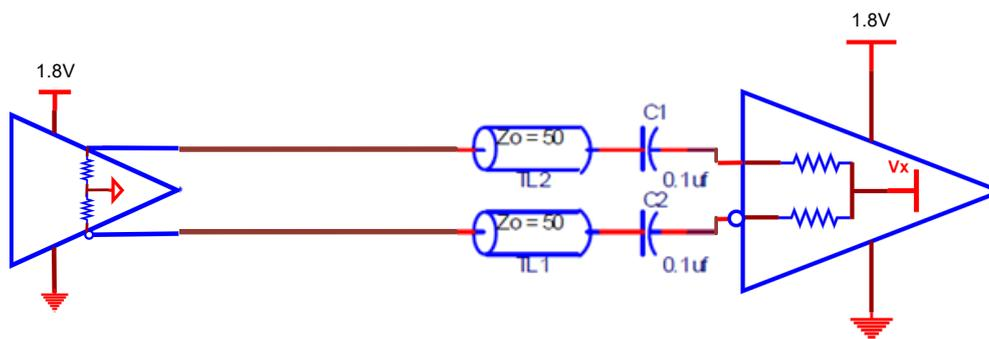

Figure 5. HCSL Dual-Termination for Receivers with Internal Terminations
- Figure 5. HCSL Dual-Termination for Receivers with Internal Terminations4
Figure 5 shows a common HCSL termination scheme for receivers with internal terminations. Internally, the receiver will have a Thevenin-equivalent termination consisting of two series 50Ω resistors center-tapped to a bias voltage. Due to the receiver's internal DC-offset, the HCSL driver should not be DC-coupled. This requires that the interface be AC-coupled and that the HCSL terminations be provided at the driver. In this case, the topology is simplified by using the FC3's internal terminations. The combination of the FC3 internal termination and the receiver's internal termination creates a dual-termination scheme, which improves the signal quality but reduces the signal amplitude by half. In this case, the FC3 amplitude should be set to the maximum setting of 950mV.